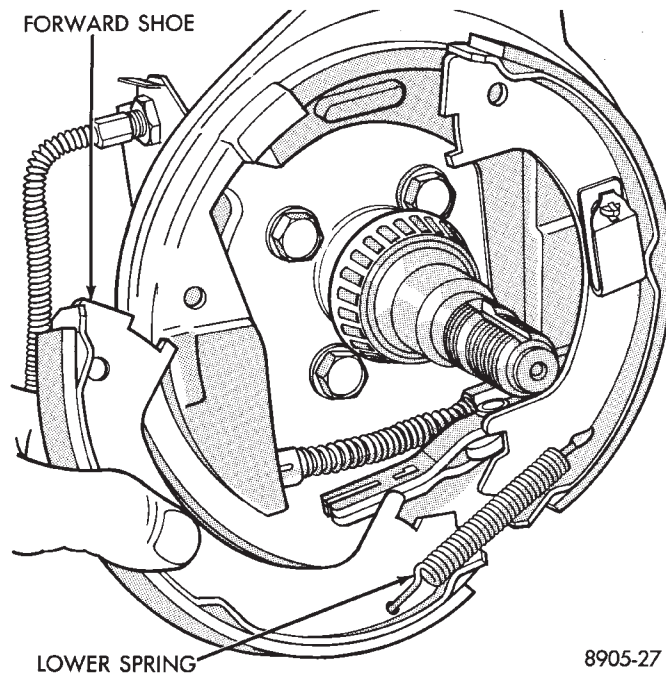

Fig. 7 Installing Lower Spring
(2) Install lower parking brake, shoe to shoe return spring (Fig. 7).
(3) Pull forward parking brake shoe over anchor block until properly located on adapter.